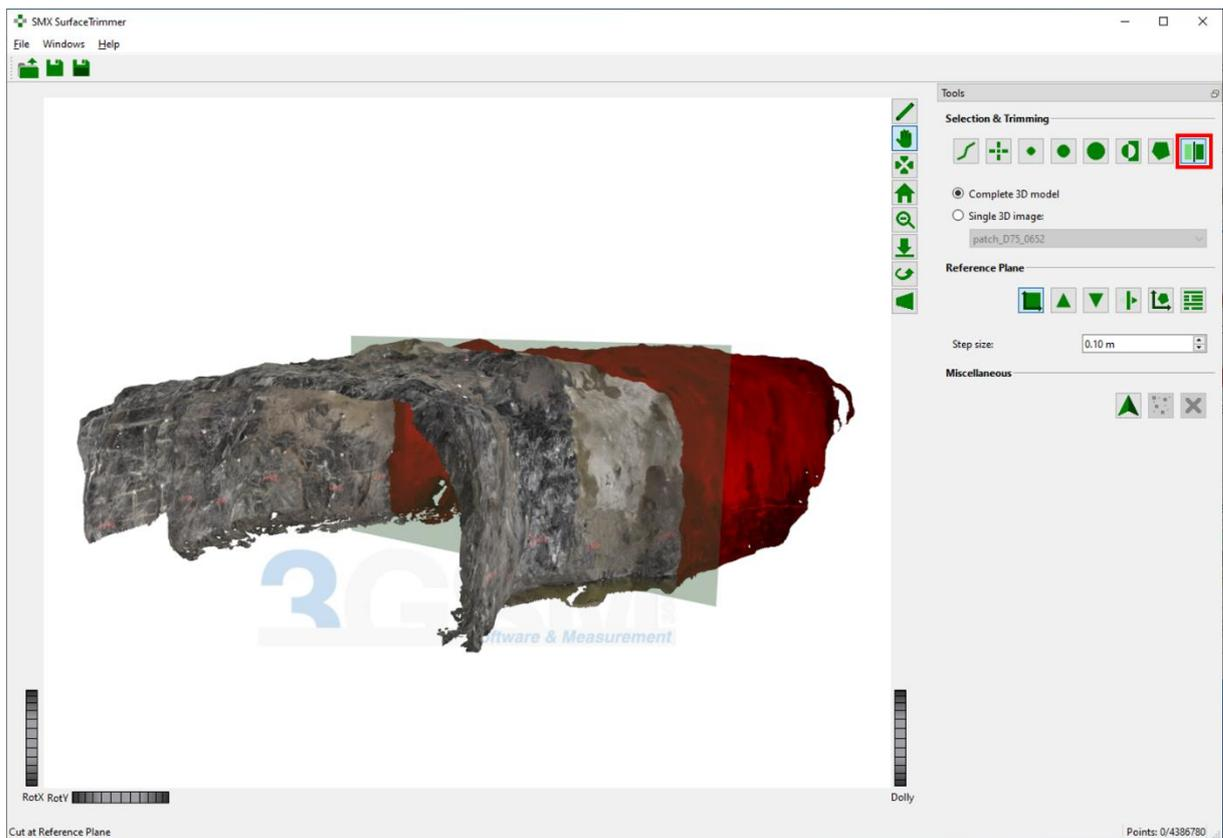

Figure 20: Area to be deleted visualised in red
4. Click on the “Cut at Reference Plane”  icon and the area to be deleted is visualized in red (Figure 20)